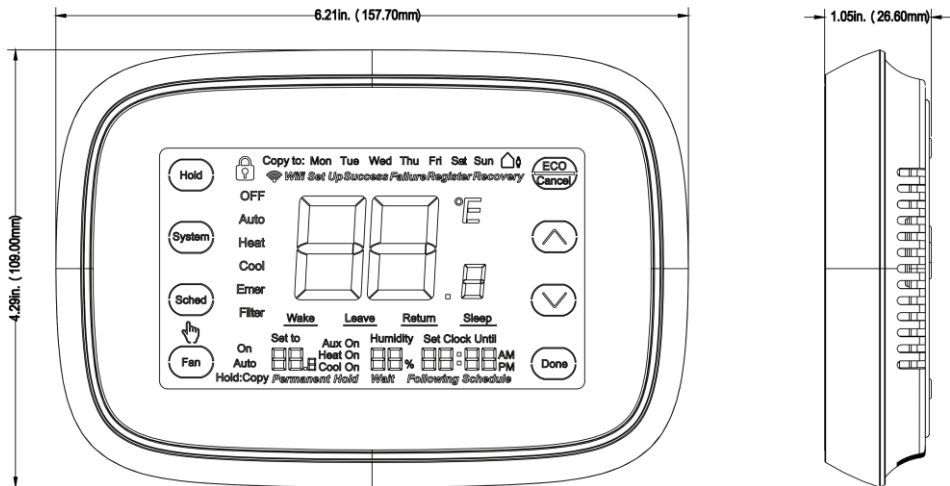

Fig. 1. Thermostat Dimensions in inches. (mm)
1. MRCOOL® dimensions: see Fig. 1.